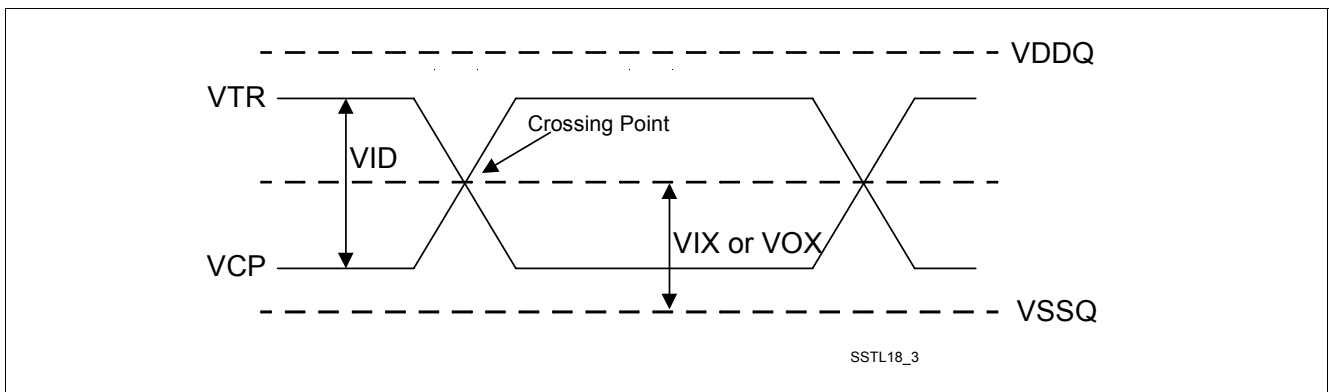

**Figure 63 Single-ended AC Input Test Conditions Diagram**
- 3) The input signal minimum slew rate is to be maintained over the range from  $V_{IL(dc)max}$  to  $V_{IH(ac)min}$  for rising edges and the range from  $V_{IH(dc)min}$  to  $V_{IL(ac)max}$  for falling edges as shown in Figure 63